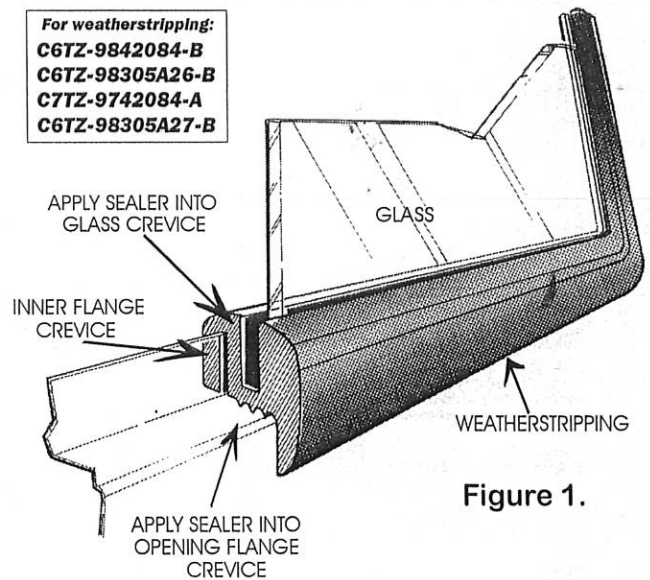

Figure 1.
2. Apply silicone sealant into the glass crevice of the weatherstripping and install it onto the glass. (see figure 1.)
3. Run a bead of silicone sealant around the opening flange crevice of the weatherstripping. (see figure 1.)
4. Beginning from the bottom center of the side of the glass which faces the interior, install a draw cord into the inner flange crevice of the weatherstripping completely around the glass and allow it to overlap the "beginning end" of the draw cord. (see figures 1 and 2.)